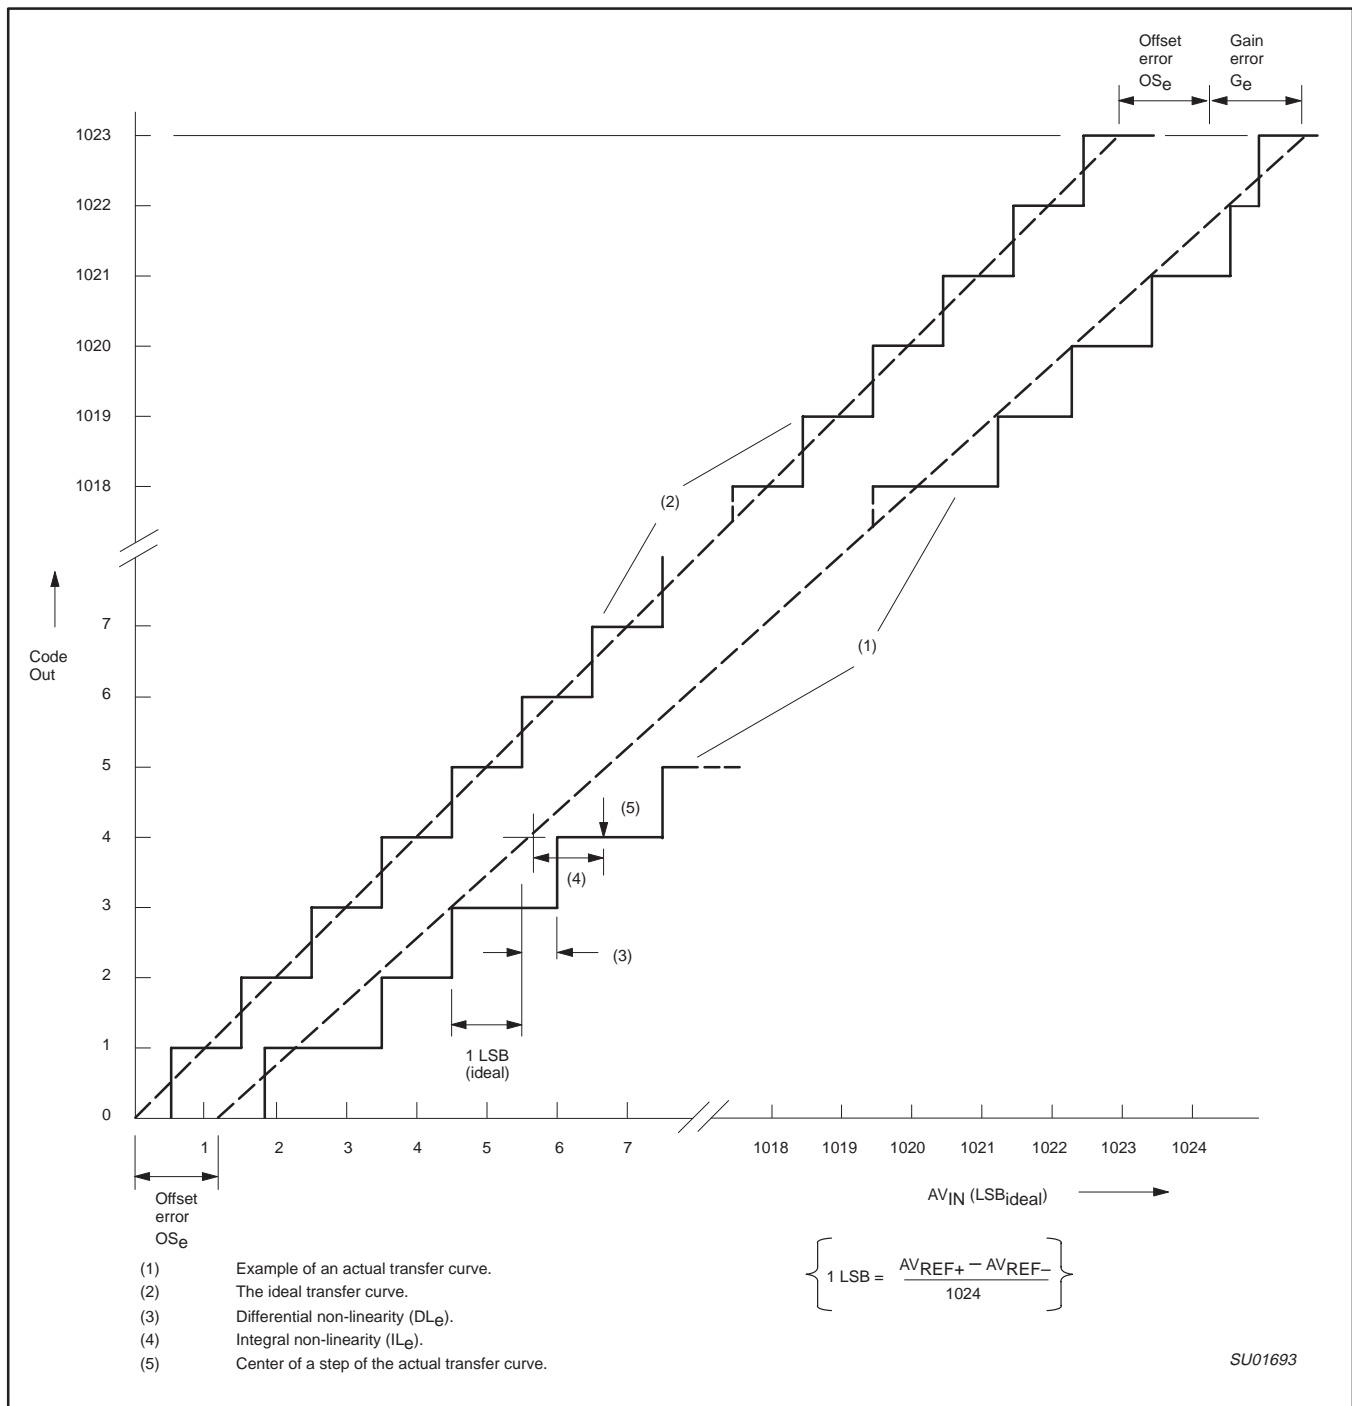

Figure 1. ADC Conversion Characteristic
- The differential non-linearity (DLe) is the difference between the actual step width and the ideal step width. (See Figure 1.)
- The integral non-linearity (ILe) is the peak difference between the center of the steps of the actual and the ideal transfer curve after appropriate adjustment of gain and offset error. (See Figure 1.)
14. The offset error ( $OS_e$ ) is the absolute difference between the straight line which fits the actual transfer curve (after removing gain error), and a straight line which fits the ideal transfer curve. (See Figure 1.)
15. The gain error ( $G_e$ ) is the relative difference in percent between the straight line fitting the actual transfer curve (after removing offset error), and the straight line which fits the ideal transfer curve. Gain error is constant at every point on the transfer curve. (See Figure 1.)